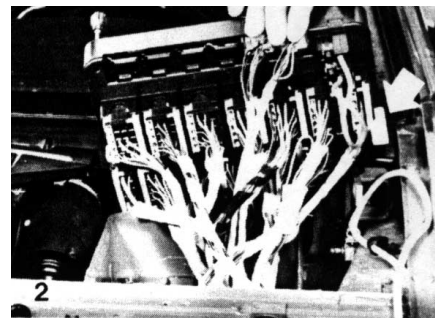

Figure 2
5. Unlock the locking rail on CEB underside (arrow / Figure 2).